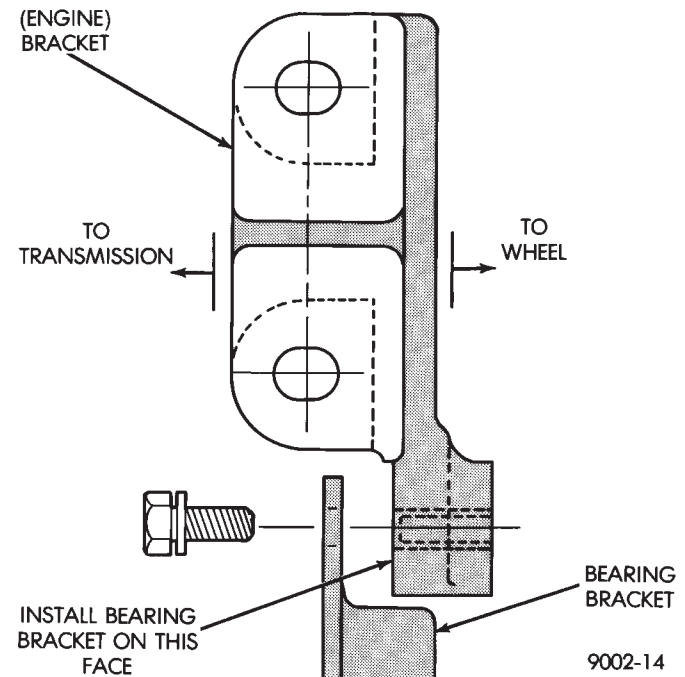

Fig. 7 3.3L Intermediate Driveshaft Bearing Brackets, Position
(1) Securely fasten bracket to bearing assembly and tighten to 28 N•m (21 ft. lbs.) torque. Figs. 7 and 8 (Also see Fig. 1).